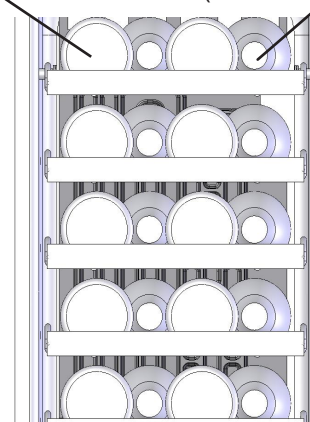

Figure 13
The five (5) pull-out shelves each hold four (4) bottles. See Figure 13 for typical wine bottle spacing. Care should be taken when storing extra tall bottles in the wine cradle at the bottom of the compartment because they may prevent the door from closing.